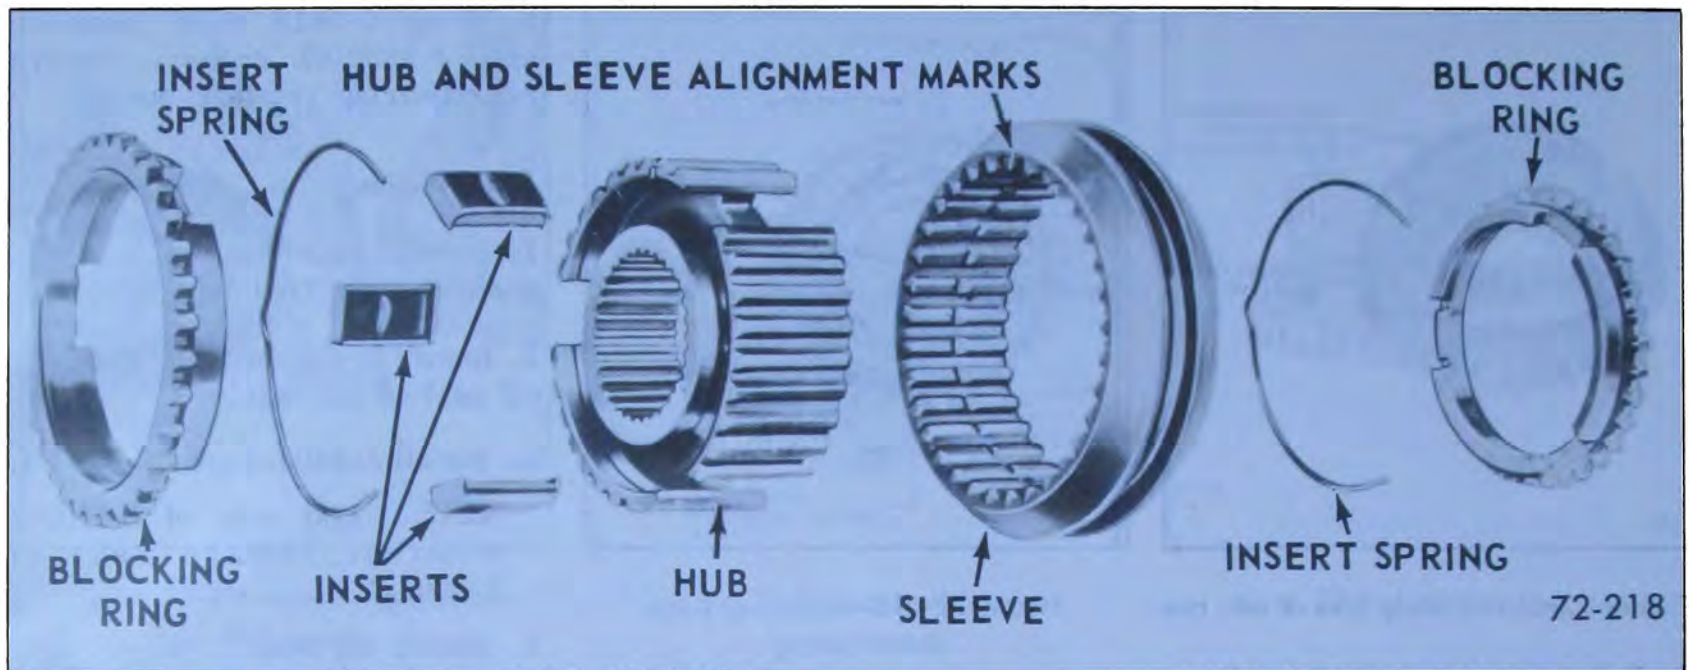

Figure 72-218—Exploded View of Second-Third Synchronizer
NOTE: Make certain that all three insert slots are fully covered. See Figure 72-218.
b. With alignment marks on hub and sleeve aligned, start hub onto sleeve. See Figure 72-218.
c. Place three inserts, in the slots, on top of retaining spring. See Figure 72-218. Push assembly together.
d. Install remaining insert spring so that spring ends cover same slots as does other spring. See Figure 72-218.